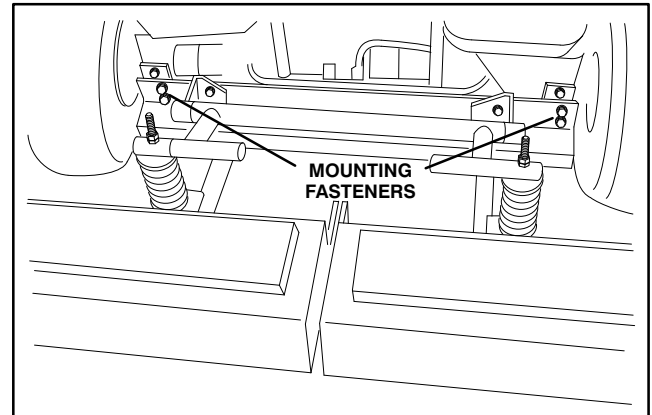

Figure 3
5. Back the Sand Pro up to the spiker and secure the mounting frame to the Sand Pro frame with (4) 1/2" x 1-1/4" lg. capscrews and flat washers as shown in figure 3.